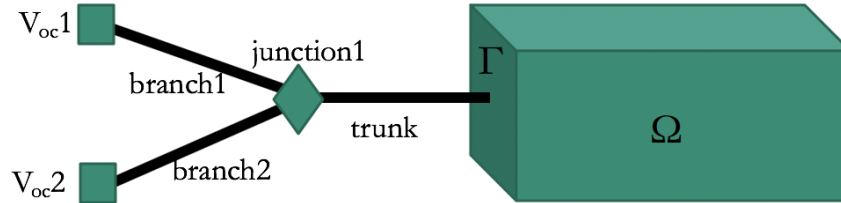

Figure 10-2. Schematic of transmission line coupling including a junction.
3. **Kirchhoff Junction:** This option supports simple junctions of transmission lines that are governed by Kirchhoff's laws. It takes a set of `Input Lines` and `Output Lines` and enforces that the sum of currents entering equals the sum of currents leaving and that the voltages at the junction are all equal. For example, the junction in Figure 10-2 would be defined by